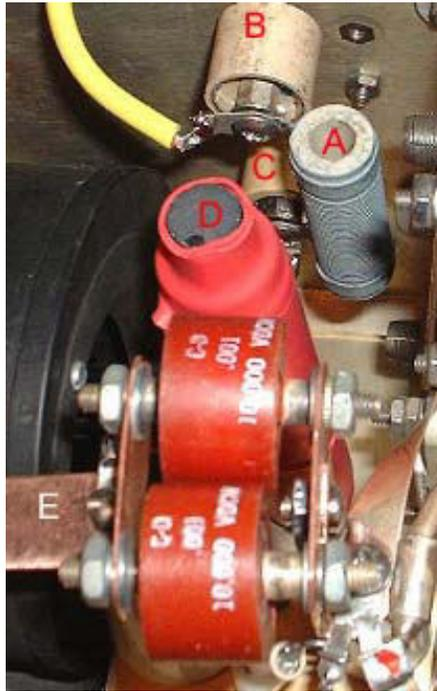

Fig.2
Fig.2 shows my plate choke design installed, the letter "D" shows the position. In addition, I replaced L-8, C-13 to C-15, with a new choke/glitch resistor and capacitor configuration, shown by the letters "A,B,&C", which forms an asymmetrical, low-VHF Q Pi-network. This new network serves two purposes, (1) to prevent VHF energy from creating any feedback circuit in the tank/plate choke system. (2) to act as an HV "glitch" resistor, limiting any HV fault current, should an HV flash-over take place inside the tubes. Capacitors "B&C" are 1000pF & 100pF, 5kV "door-knob" type, grounded to the chassis by virtue of the mounts. The "hot" side of the caps supports the resistor "A".
My opinion on the use of "disk type" caps in high RF current/ high HV applications is a cheap and not so reliable method. I opt for heavy epoxy encapsulated "door-knob" type HV capacitors. I used two 1000pF @ 10kV caps, which required a new mounting bracket, that I fabricated out of copper plate stock. These copper brackets can carry far more RF current too. The new design is seen in Fig.2 letter "E".